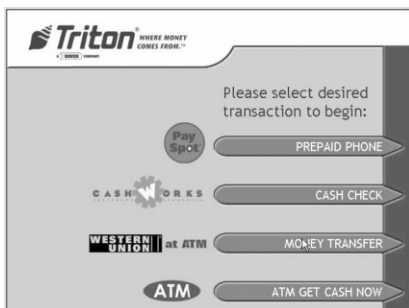
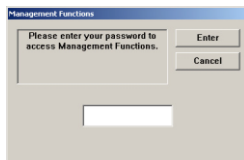

Fig. 2-6. Customer screen.
Fig. 2-7. Password entry dialog.
1. At the Customer screen (Figure 2-6), press and hold down the <CTRL> key; while holding down the <CTRL> key, press the <1> key. Release both keys. The password entry prompt appears. (Figure 2-7)